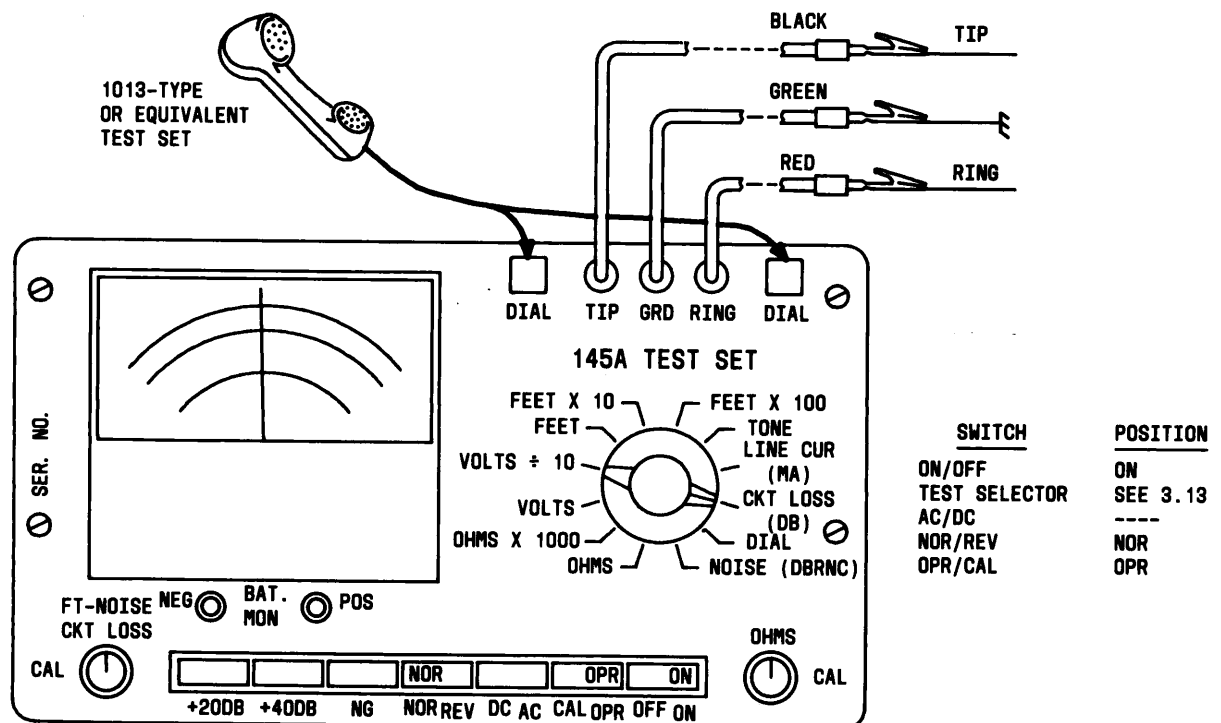

Fig. 9—Circuit Loss Measurement
3.13 Circuit Loss Measurement (Fig. 9): This test measures the loop circuit loss in decibels (dB) at the subscriber end, using the 1000-Hz milliwatt (0 dBm) test tone from the CO. It will give accurate results on either 600- or 900-ohm circuits.